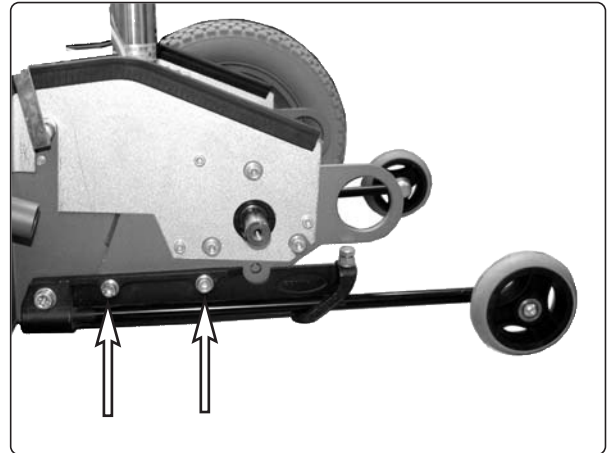

Fig.11. Removing a support wheel.
3. Remove the two screws, see fig. 11.